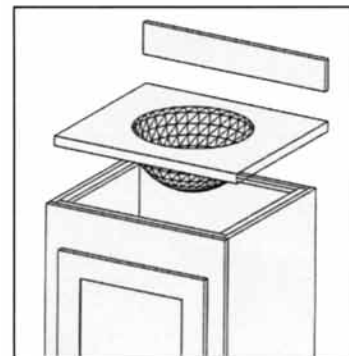

Figure 2
5. Carefully lower the top onto the vanity cabinet, making sure that the shims stay in place. See *Figure 2*.